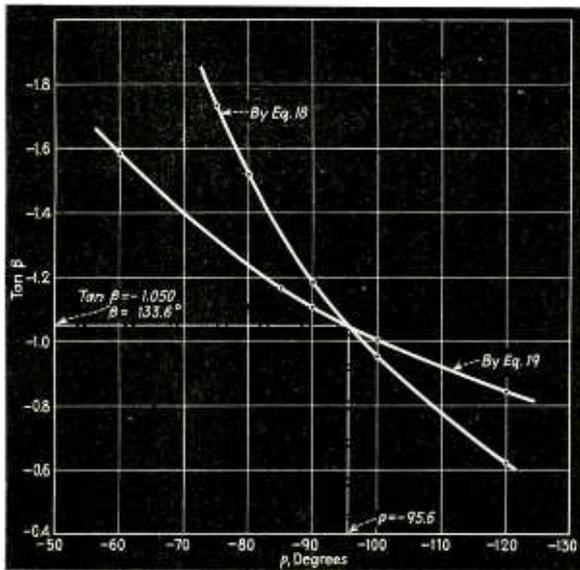

Fig. 8—Curves which determine the duration of current flow through the rectifier elements of Fig. 7 as calculated in Example 3
The curves obtained by plotting Eqs. (18) and (19) for assumed values of  $\rho$  are shown in Fig. 8. By graphical solution  $\alpha = 38.0^\circ$  and  $\beta = 133.6^\circ$ . From the boundary condition at  $x = \beta$  and  $i = 0$